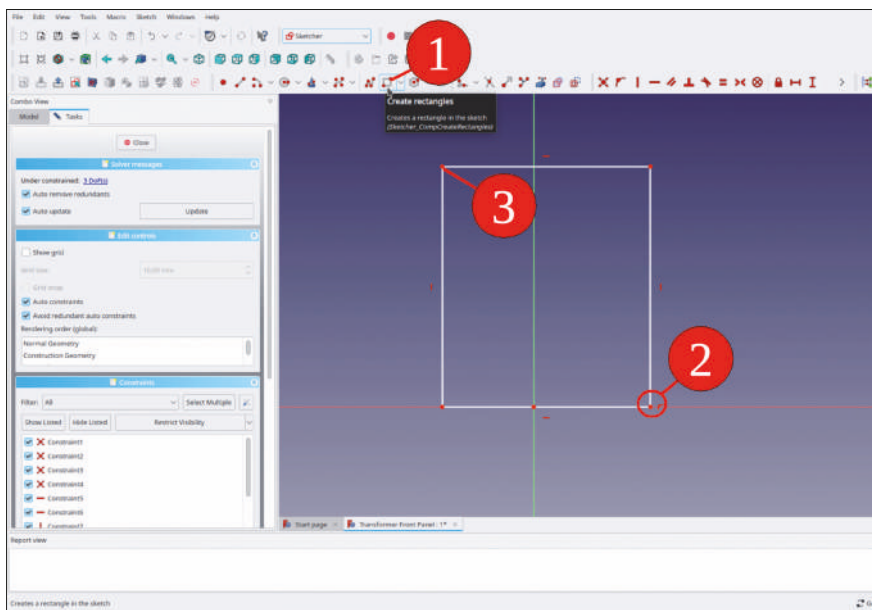

Figure 9-3
3. Draw a rectangle whose bottom side coincides with the X-axis (Figure 9-3). End the drawing command with a right-click.